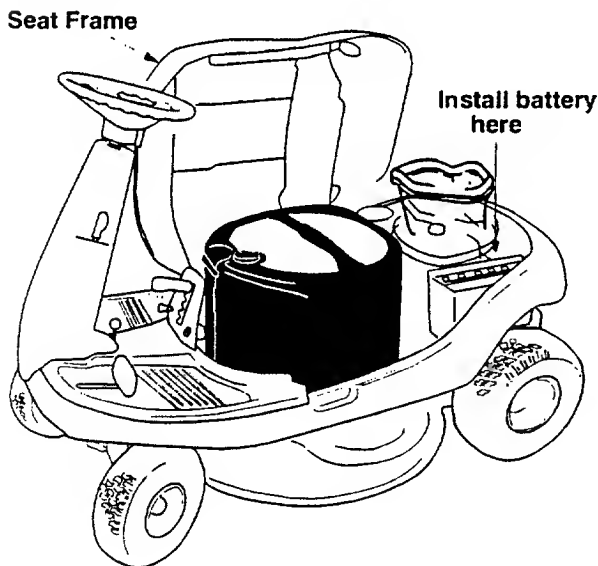

Figure 3
- Pivot the seat frame of the mower upwards as shown in Figure 3.